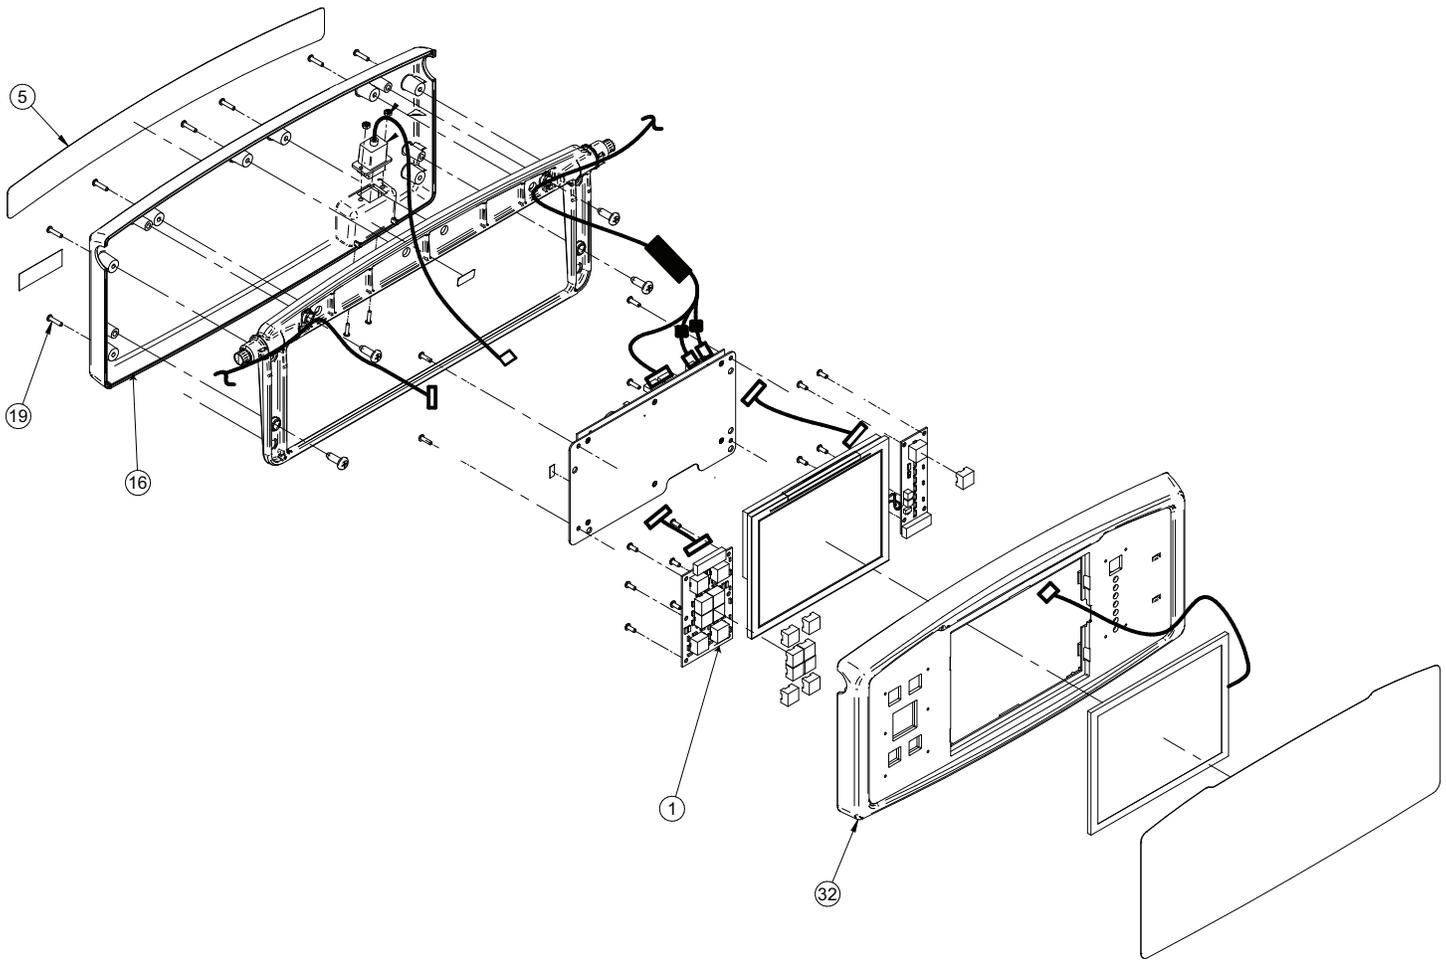

Figure 59 – Footboard assembly
2. Using a small slotted screwdriver, remove the fascia back foot control label (5) (Figure 59).
3. Using a #2 Phillips screwdriver, remove the six screws (19) that secure the front nurse panel (32) to the rear footboard control (16) (Figure 59). Save the screws.
5. Using a #2 Phillips short screwdriver, remove the two screws (19) from the bottom of the front nurse panel (32). Save the screws.
10. Using a #2 Phillips screwdriver, remove six screws that secure the brake control board (1) to the foot nurse panel (32) (Figure 59). Save the screws.